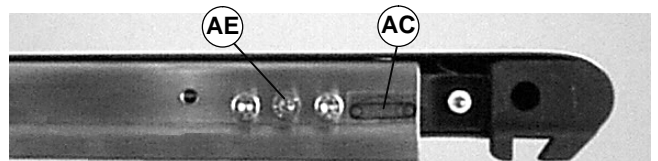

Figure 21
4. With pinion gear engaged, insert a 4 mm hex key wrench into lock screw (AE of Figure 21).
5. With pinion gear engaged, insert a 4 mm hex key wrench into lock screw (AE of Figure 21).